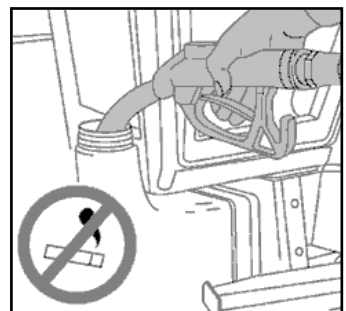

Fig. 11
- Do not smoke when filling the fuel tank and do not perform this operation in a potentially hazardous environment, such as near a source of open fire or sparks; negligence cause a fire (Fig. 11);